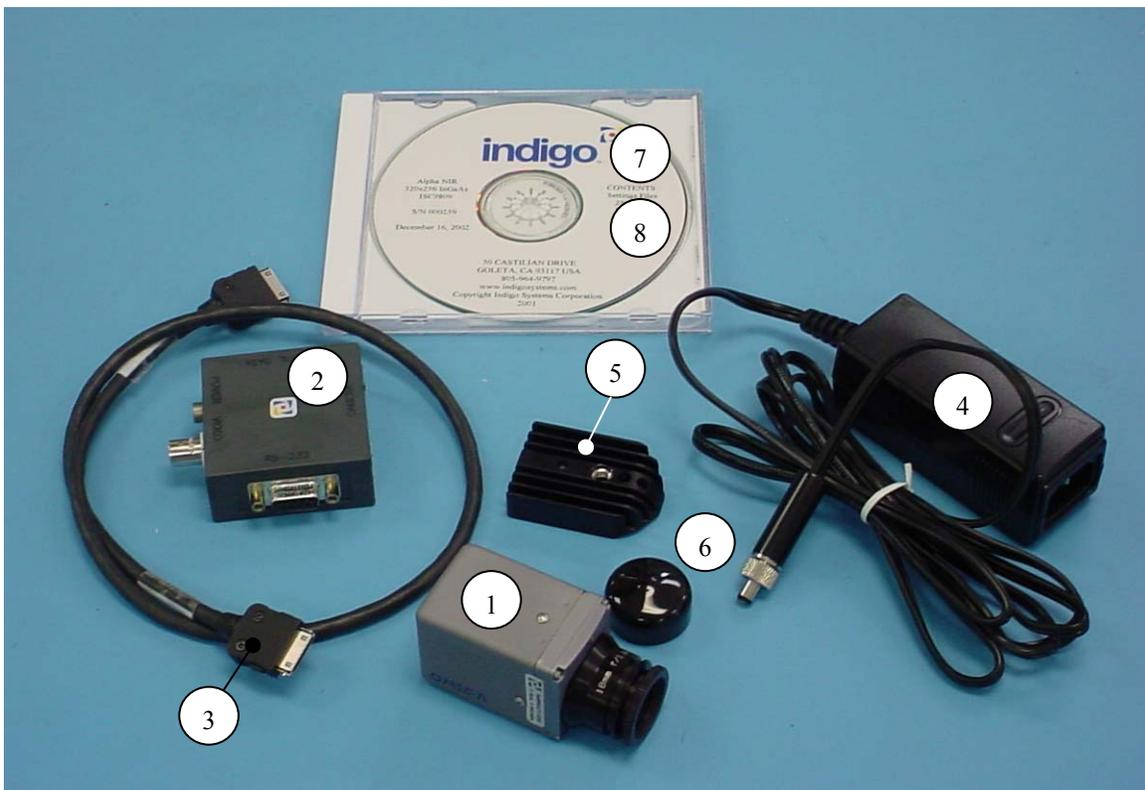

Figure 2: Standard Micron/A10 Equipment
The items shown in Figure 2 come standard in your Micron/A10 Camera package. If there is any discrepancy between this list and the contents of your camera package, please contact Indigo Systems Customer Support immediately at (805) 964-9797.